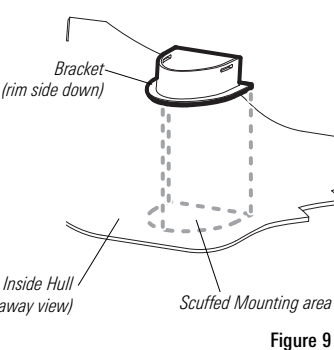

Figure 9
5. Peel the red liner from the adhesive backing. Orient the pointed end of the bracket toward the front of the boat, and attach the bracket onto the prepared mounting area of your kayak. Press and hold the bracket firmly to the kayak so that it bonds evenly to the surface (Figure 9).